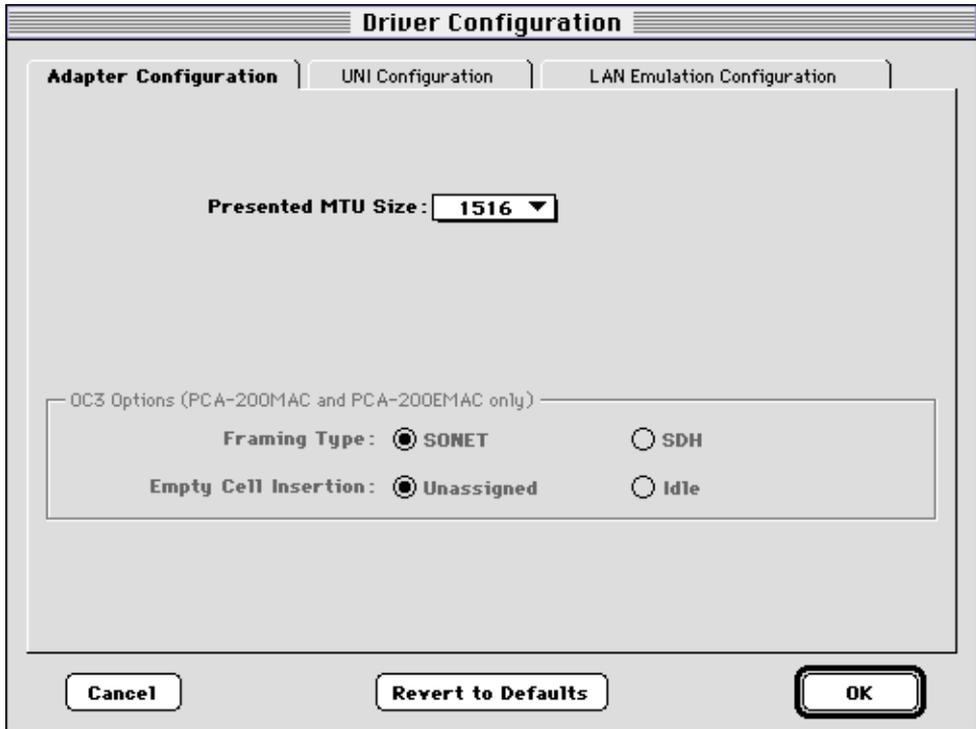

Figure 4.15 - Adapter Configuration Tab
The Adapter Configuration tab, shown in Figure 4.15, allows you to configure several adapter driver settings. This tab is accessed through the `Edit` menu of the InFOREmation Center under the `Driver Preferences...` menu selection.
1. Click **Driver Preferences...** on the **Edit** menu. The **Adapter Configuration** tab appears, as shown in Figure 4.15.